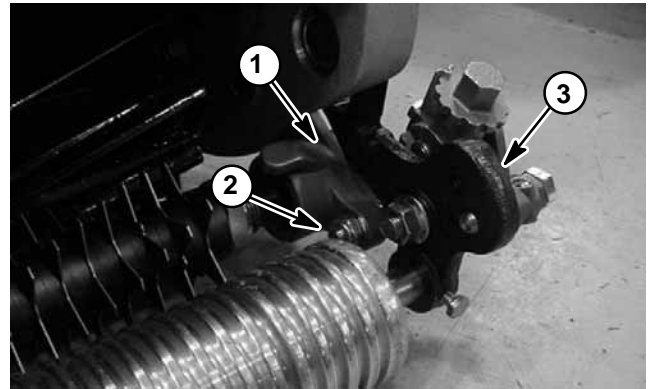

Figure 14
- B. Remove lock nut and spring washer that secure LH groomer arm lift rod to LH groomer side plate (Fig. 14). Remove LH groomer side plate from mower.
- B. Place spring washer and lock nut on lift rod threads (Fig. 14). Tighten lock nut.